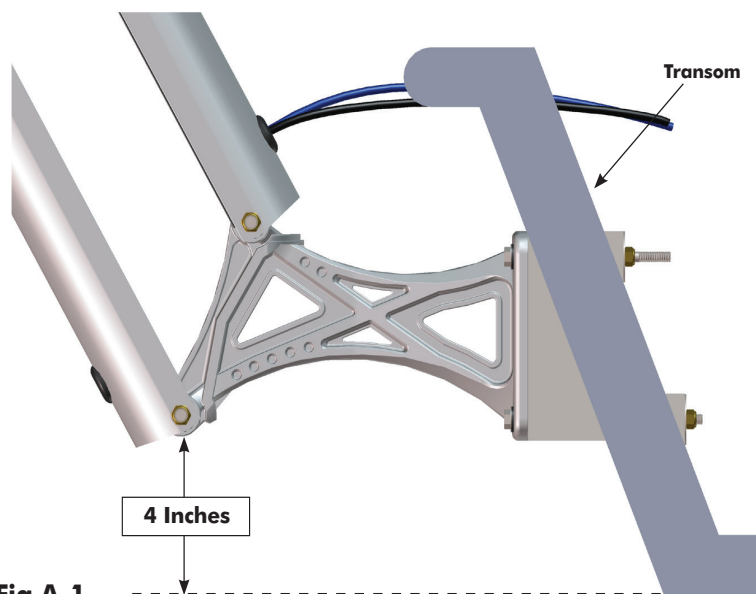

Fig A-1
1. Place a straight edge on the bottom of the hull directly below and centered from the desired mounting location. The lowest point of the Power-Pole shallow water anchor will need to be at least 4" above this straight edge Fig A-1. If the Power-Pole shallow water anchor is mounted lower than the 4" minimum the vessel may experience adverse handling effects.